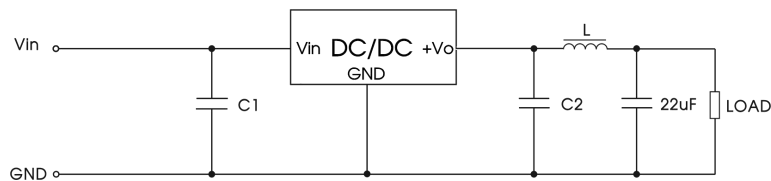

Fig. 3 External "LC" output filter circuit diagram
4. To further reduce the output ripple and noise, we suggested the use of a "LC" filter at the output terminals, with an inductor value (L) of 10μH-47μH, see Fig. 3